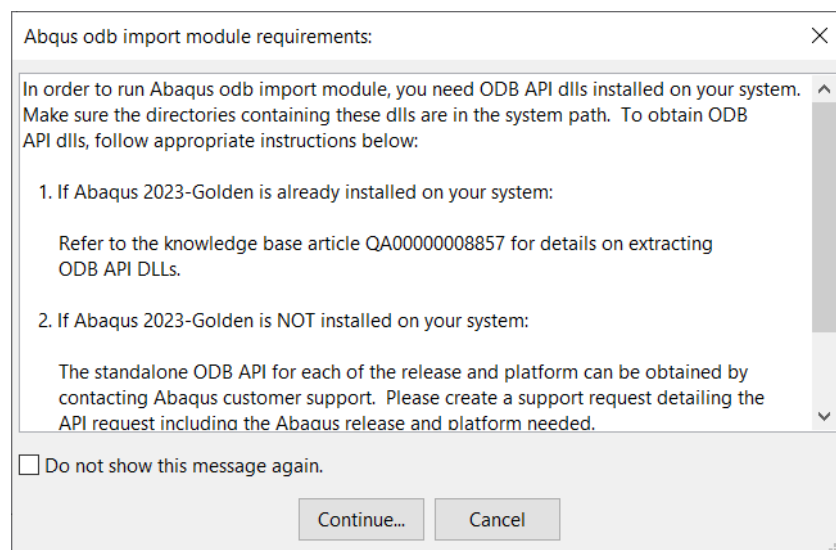
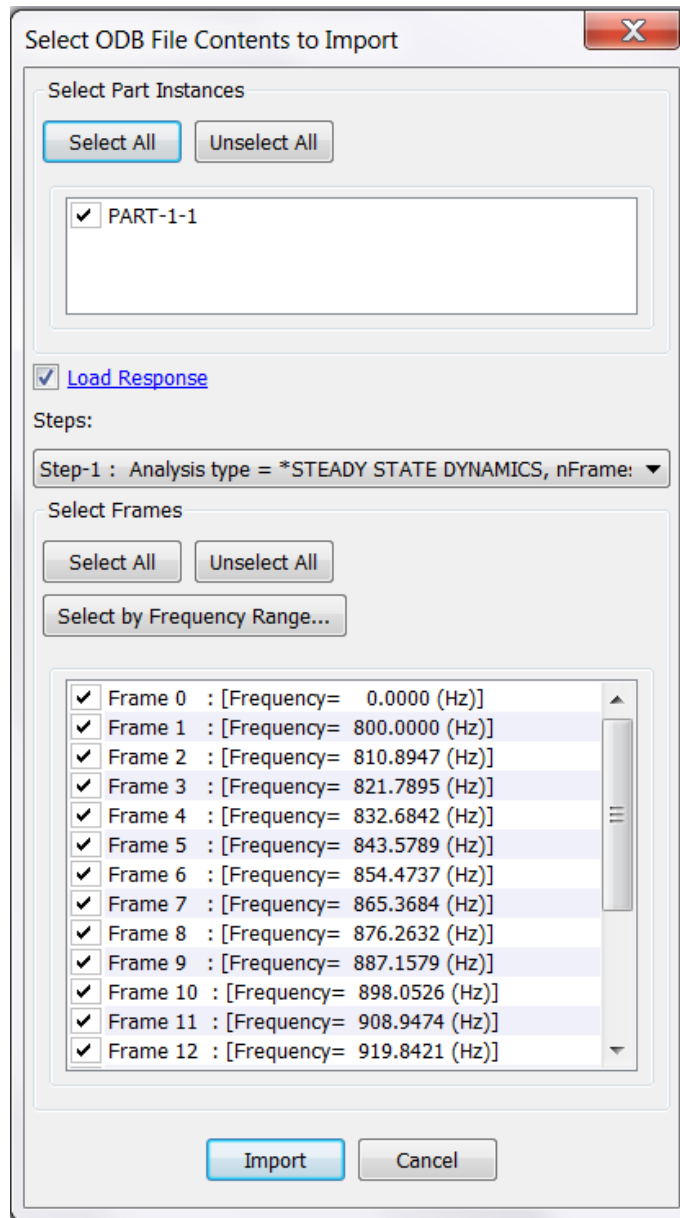

Figure 5.2 Odb Reader Import Requirements Dialog Box.
Figure 5.3 Odb Reader Import Options Dialog Box.
5.1.1.1. Abaqus *.odb file Abaqus Output Database file (*.odb) is a results file from the Abaqus FE analysis. It includes information about both the geometry and the response. On import, Coustyx displays the dialog box (Figure 5.2) about the dll requirements for the odb reader. Coustyx requires the version Abaqus 2023-Golden odb API dlls for the odb reader. If Abaqus 2023-Golden is installed on the same machine as Coustyx, then make sure the directories containing the odb API dlls in the Abaqus installation folder are exposed to Coustyx through the system path. If Abaqus 2023-Golden is not installed on your machine, then download appropriate dlls from the Abaqus ftp site and copy them to the installation directory as instructed in the dialog box. After successfully reading the file, odb import options dialog box (Figure 5.3) appears. The user can select the part and the response at various frequencies to be imported into *Coustyx*.